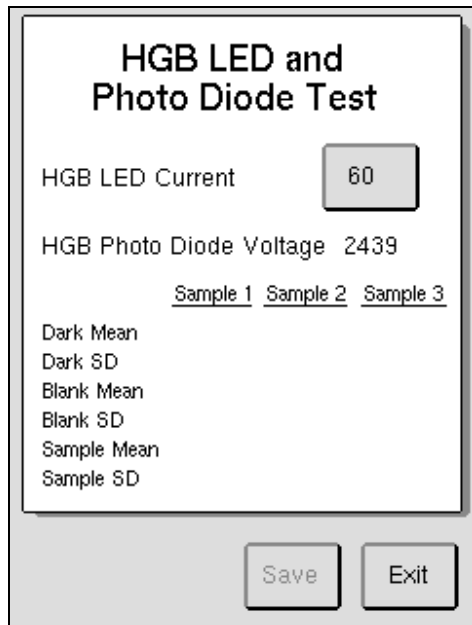

Figure 6.8
2. Go to Service Menu2 and select [HGB]. (Figure 6.8)